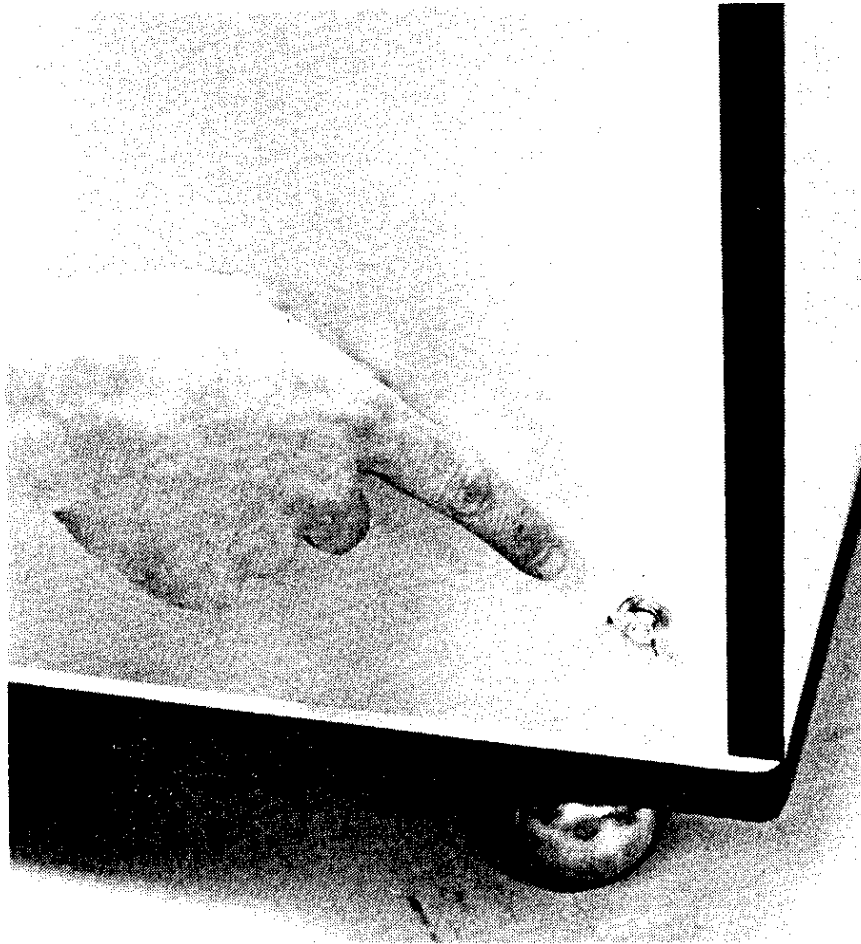

Figure 2.1-5
- First - Remove wing nut and washer at back of cabinet. (Figure 2.1-5)